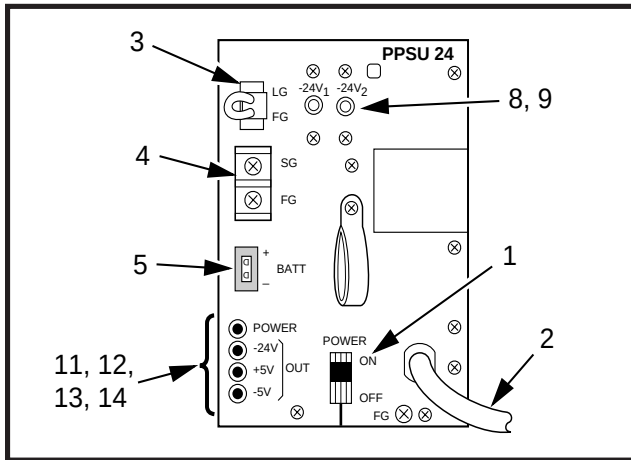
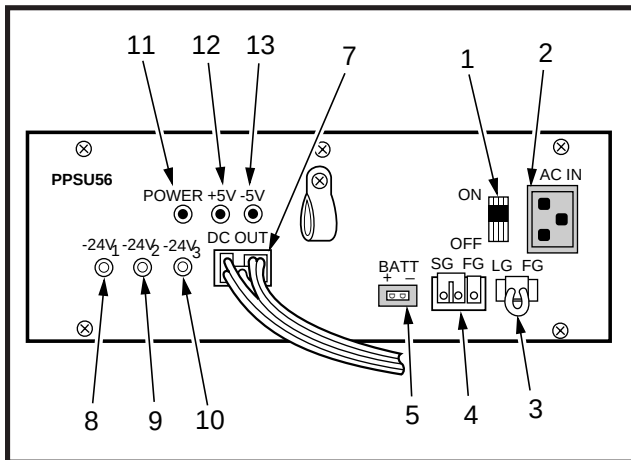
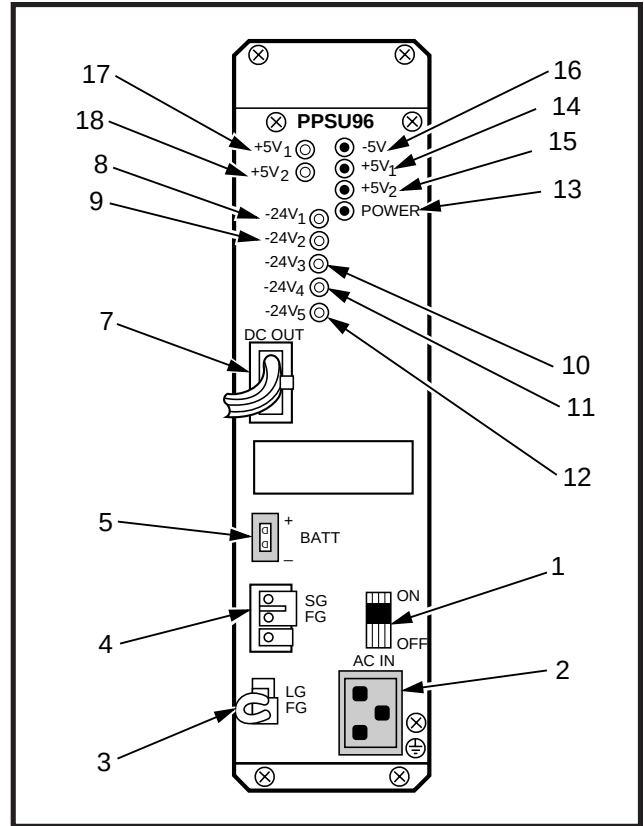

FIGURE 2-11
FIGURE 2-12
FIGURE 2-13
7.01 Power supply controls and indicators for the DK24 model are shown in Figure 2-11 and described in Table 2-D; for DK56, see Figure 2-12 and Table 2-E; and for DK96, see Figure 2-13 and Table 2-F. PCB controls and indicators are shown